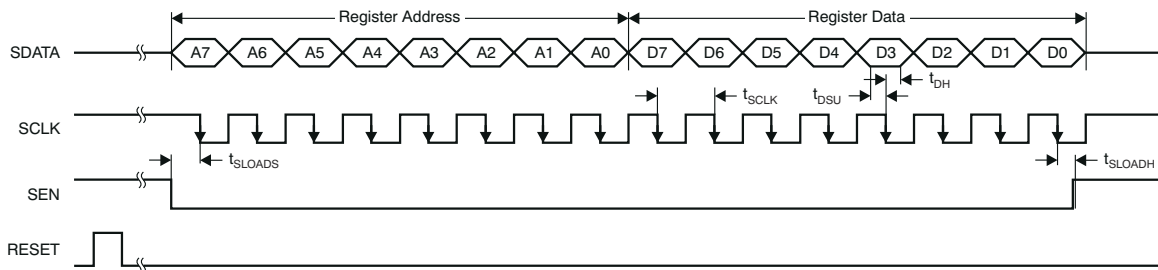

Figure 8-17. Serial Interface Timing
1. Either through hardware reset by applying a high pulse on the RESET pin (of width greater than 10ns), as shown in Figure 8-17; or